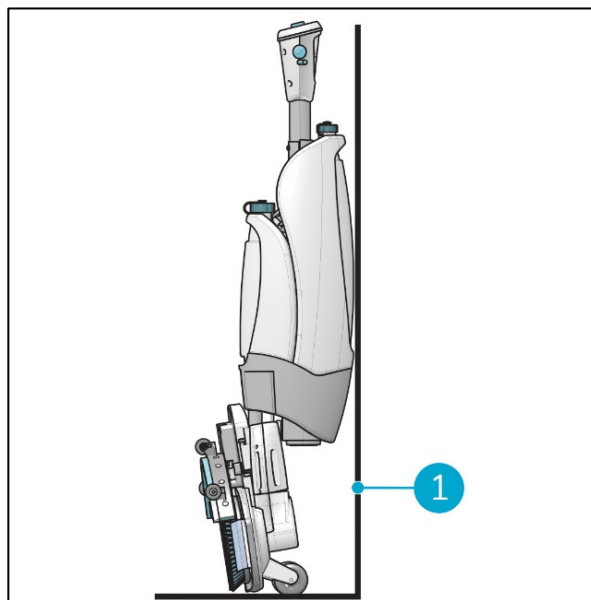

Figure 24
3. Store the i-mop XXL basic close to a wall (Figure 24, pos 1) with the handle pointing towards the wall and the brushes facing away from the wall.